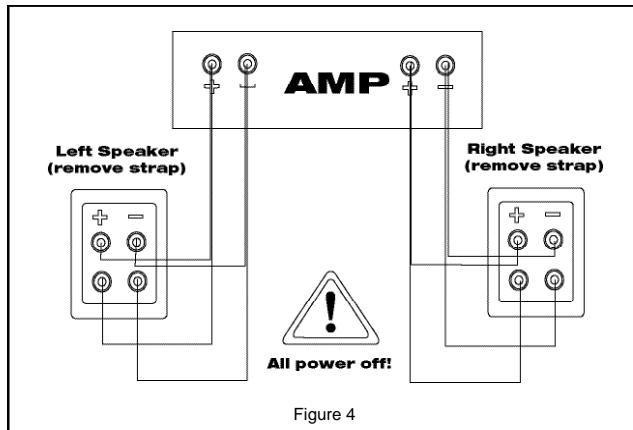

Figure 4
**Bi-wiring** - In bi-wiring, separate cables are connected from the amplifier or receiver output terminals to the speaker input terminals for the tweeter and woofers. (See Figure 4.) This results in lower electrical resistance between the amplifier and speaker than single-wiring with the same gauge cable. In some cases bi-wiring may be preferable to single-wiring with lower-gauge cable, which will be thicker and probably less flexible. To bi-wire your Reference Series speakers, loosen the nuts on the binding posts and remove the metal straps linking the woofer and tweeter terminals. Observing proper polarity, connect one cable to the tweeter binding posts (upper) and another to the woofer binding posts (lower). Run both cables back to your amplifier or receiver and attach them to the same channel. (Do not, for example, attach one to an A speaker output and the other to a B speaker output on an amplifier or receiver with A/B speaker switching.) Amplifiers may be severely damaged if straps are not removed.